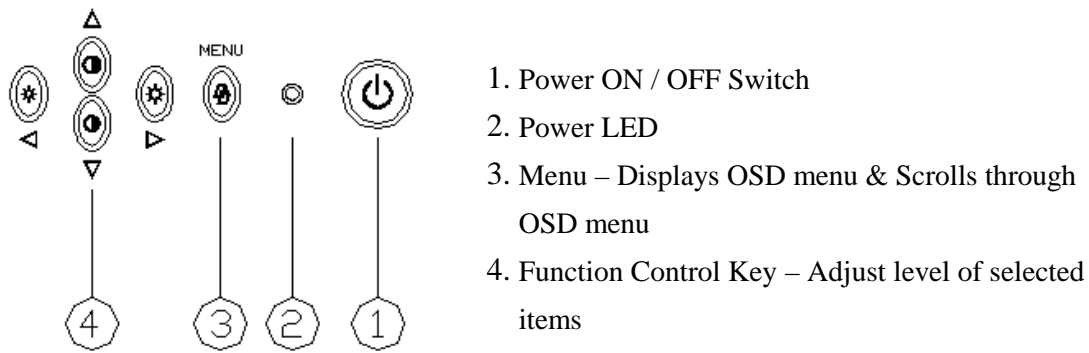
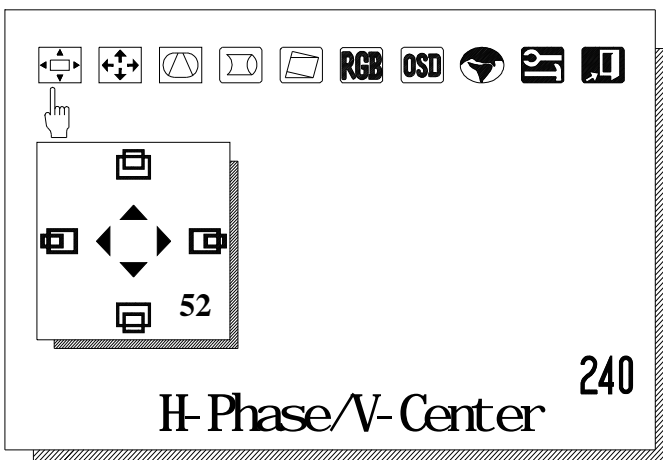

Figure 5 : shows the position of following operating units:
Figure 6 : Function Menu
- A. Press “Menu” key (Figure 5) to enter the OSD menu containing 10 functions as shown in Figure 6 .
1. Press “MENU” key to select OSD function (Figure 6)
1. Make adjustment by using the four function control keys \uparrow \downarrow \leftarrow \rightarrow or 4 (Refer to Figure 5)
H-Phase & V-Center Position (Please refer to Figure 6)